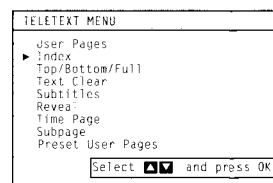

Fig. 38.
- 2 Using  $\Delta+$  or  $\nabla-$ , select the teletext function you want and press OK. (See Fig. 38)